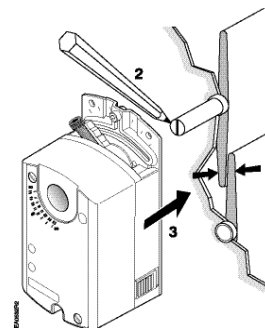

Figure 7. Mounting Actuator to Damper Shaft.
NOTE: The GDE actuator comes with a factory installed 1/2-inch shaft guide. If shaft size is 1/2-inch, proceed with Figure 7.
2. Mount actuator to shaft See Figure 7.